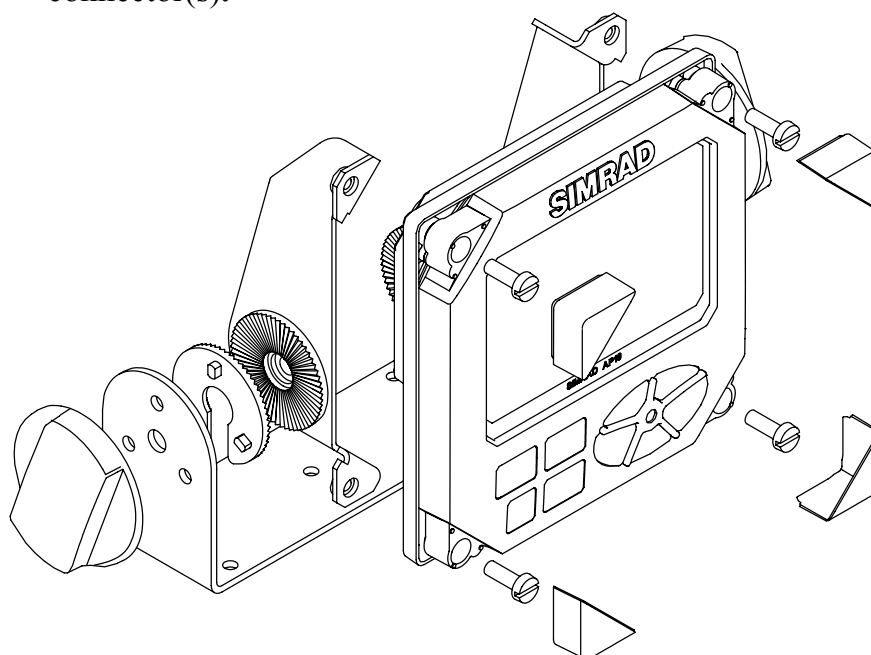

Figure 3-8 AP16 Bracket mounting
- Locate the cradle on the mounting site and mark the 4 holes for the fixing screws on the mounting surface. The bracket can be mounted as shown on Figure 3-8 or 90° off.